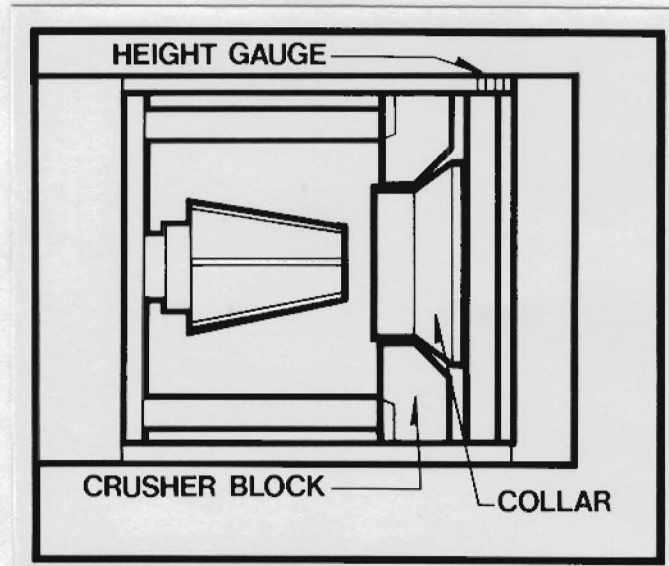

FIGURE 4) CST-25 RAISING COLLAR HEIGHT
2. Move the Stretcher Block and the Spacer Block from the stored position to the stretching position. Lift the Stretcher Block and the Spacer Block out of the CST-25, turn both items 180° and reinsert them into the CST-25 so that the Numbers "2" and the Letters "A" line up as shown in Figure 4.